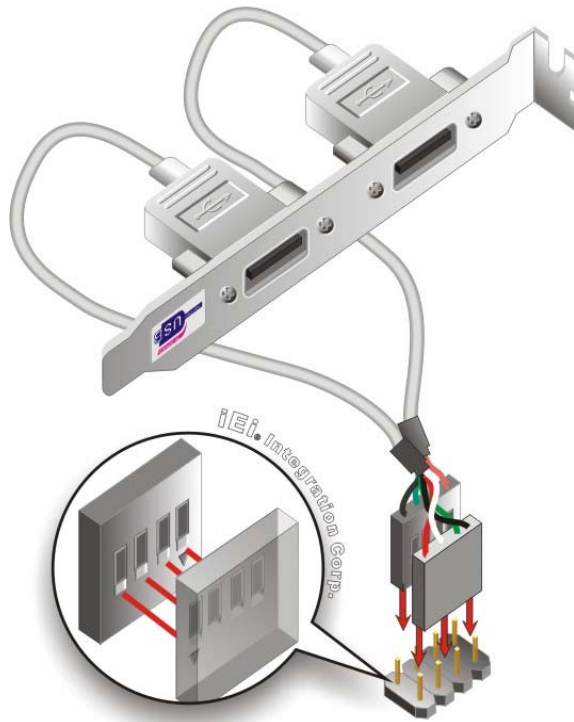

Figure 4-14: Dual USB Cable Connection
Step 3: Insert the cable connectors Once the cable connectors are properly aligned with the USB connectors on the PCIE-Q670 Series, connect the cable connectors to the on-board connectors. See **Figure 4-14**.